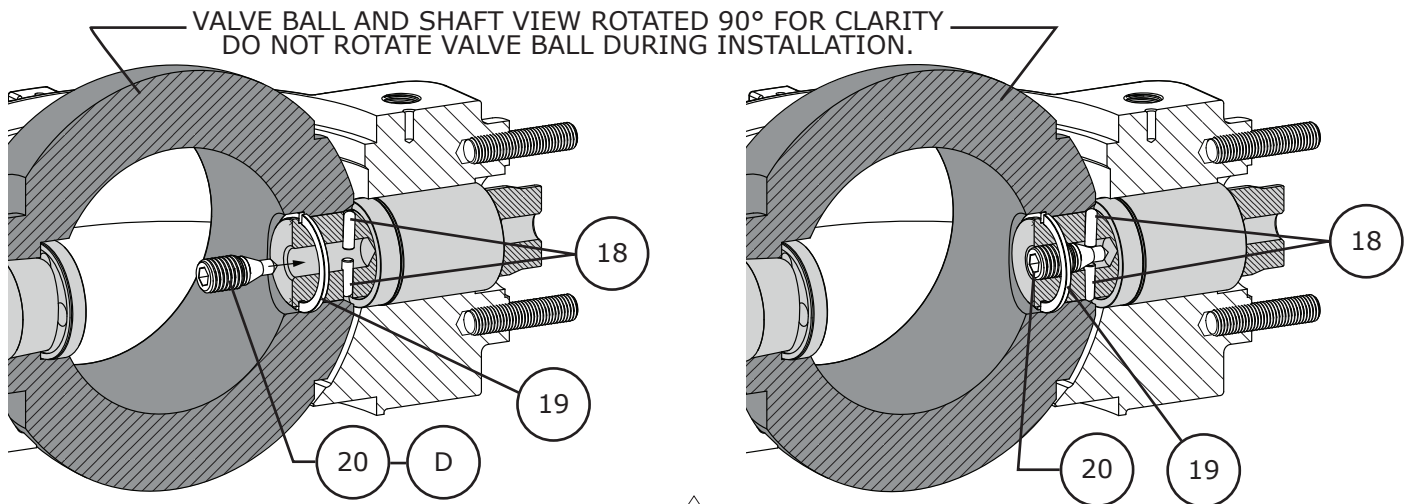

Figure 31 Outboard (Follower) Shaft Installation (Step 16)
- 16** Apply medium strength thread locking compound (Key D) to the threads of the retainer screw (Key 20), thread the retainer screw into the follower shaft (Key 21) until the face of the retainer screw is flush with the face of the ball (Key 2). If installed properly, the pins (Key 18) will engage and slide into the pin grooves of the ball (Key 2). Refer to Figure 31.